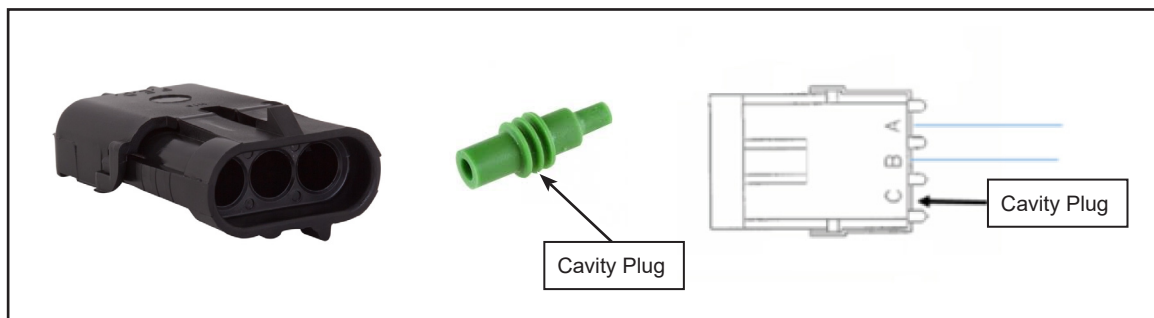

Figure 12 - Insertion of Cavity Plug in Weather Pack Connector
- 1.15. Insert the Cavity Plug in the unused channel of the Weather Pack 3-Position Connector. (see figure 12)